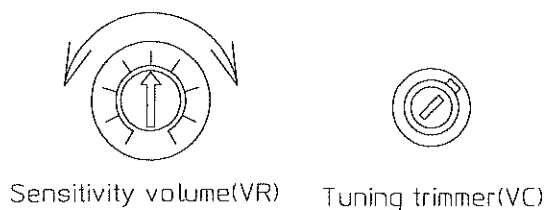

Fig. 4
- 6.1.4 Set the sensitivity volume at midpoint, as shown in Fig.4 , and then turn the tuning trimmer slowly with a small screwdriver.